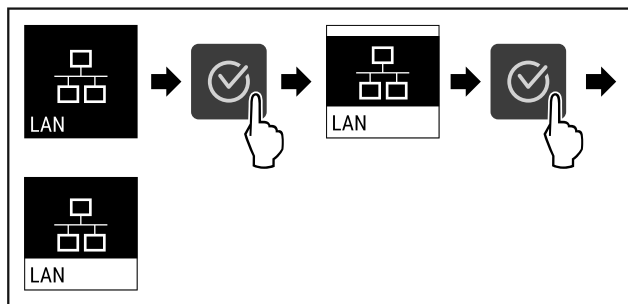

Fig. 91
- Complete the steps (see Fig. 91) .